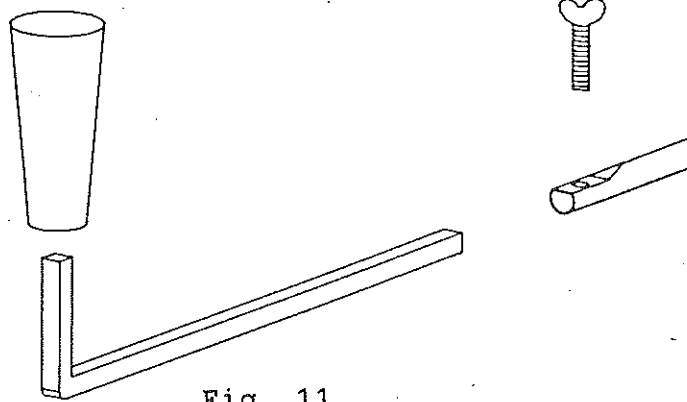

Fig. 11
10. It is necessary to lengthen the damper rod to allow for the extra depth of the brick facing. To lengthen: See Fig. 11.